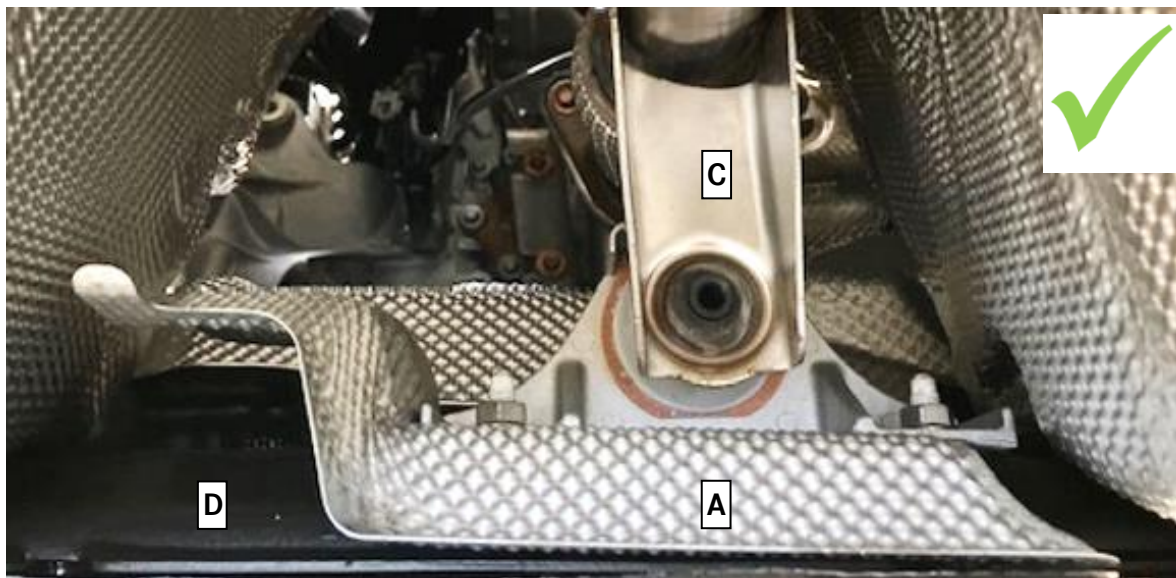

Figure 4
4. Position heat shield (Figure 4, A) in the correct installation position on the integral carrier studs and lower the exhaust system holder (Figure 4, C) back onto the heat shield.
i Heat shield (Figure 4, A) is correctly mounted if it is **between** the exhaust system holder (Figure 4, C) and the integral carrier (D, figure 4).